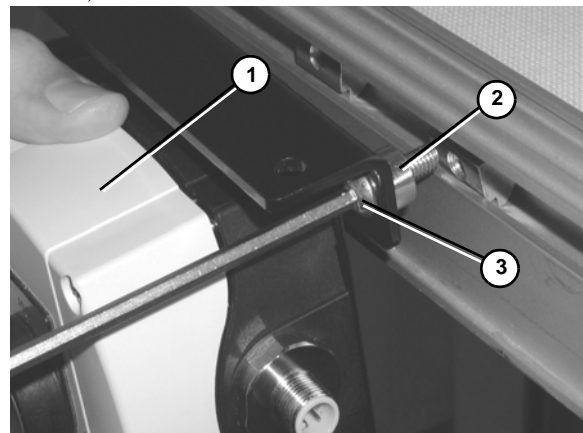

Figure 8
2. Attach button box kit (Figure 8, item 1) to conveyor with spacers (Figure 8, item 2) and screws (Figure 8, item 3).